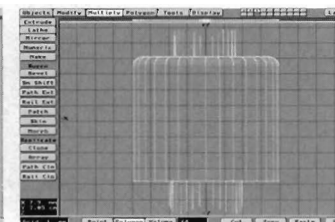

Figure 13
After entering each group of coordinates, hit OK (Enter), then (Enter) once more to make the point. Once all points have been created, select them in a clockwise direction and type (p) to make a polygon. Now go to the Multiply Menu and select Lathe (n) Numeric. Set the axis to (Y), sides to (32). Leave everything else at default. Press OK (Enter), then (Enter) once more to Lathe the eraser. Select the top and bottom polygons and hit (z) to delete them (Figure 13). Next, select the topmost inner points in a clockwise direction and hit (p) to make a polygon. Click the spacebar until Polygon Mode is selected. Name (q) this surface "Eraser-Flat." Hit (Shift + ") and name (q) these surfaces "Eraser-Smooth." Finish the eraser by saving it as "Eraser" in the same directory you saved the shaft in.